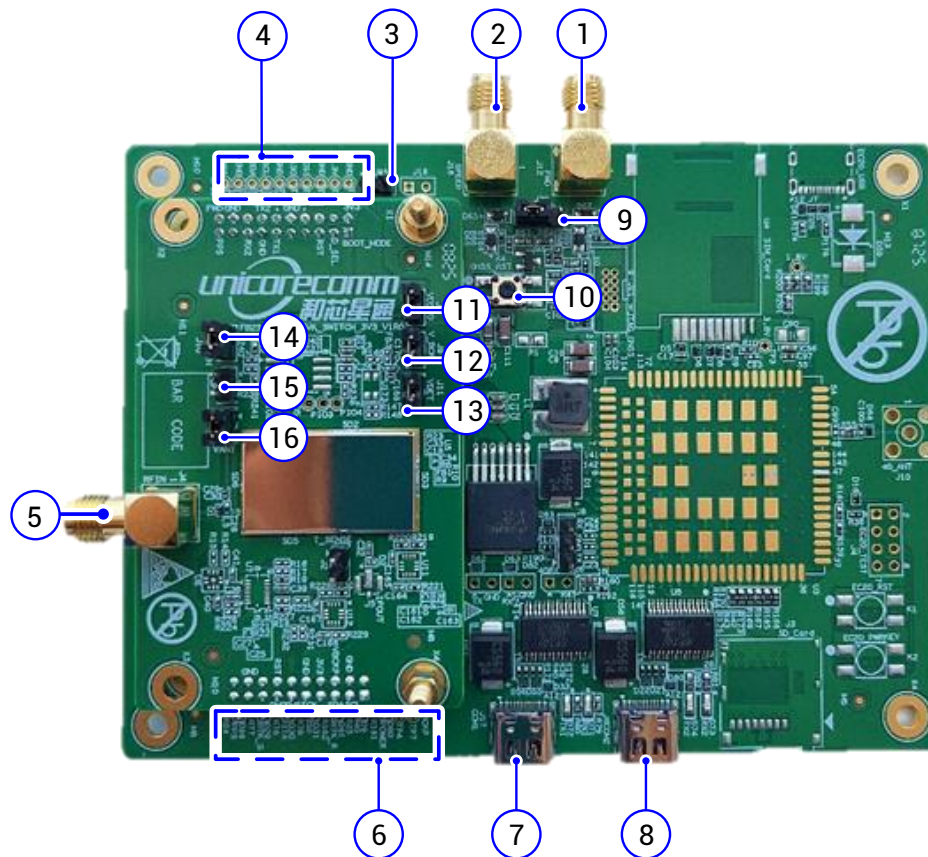

Figure 3-1 EVK
The EVK supports two Type-C USB2.0 interfaces J17 and J6. See **Figure 3-1** (7) and (8). USB1 and USB2 respectively correspond to UART1 and UATR2 of the GNSS adapter. Both of the two UARTs can be used to communicate with the host, but only UART1 can be used for firmware upgrade.